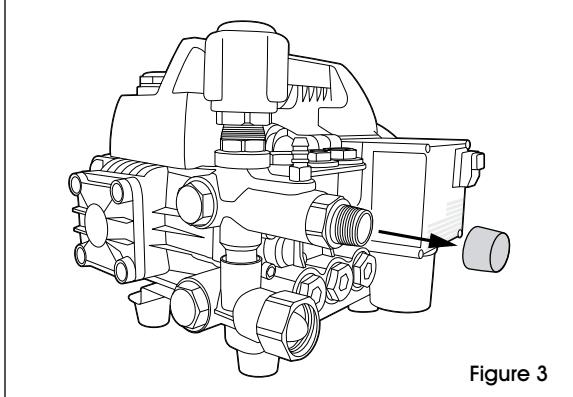

Figure 3
1. Remove red cap from outlet as shown. (See Figure 3)